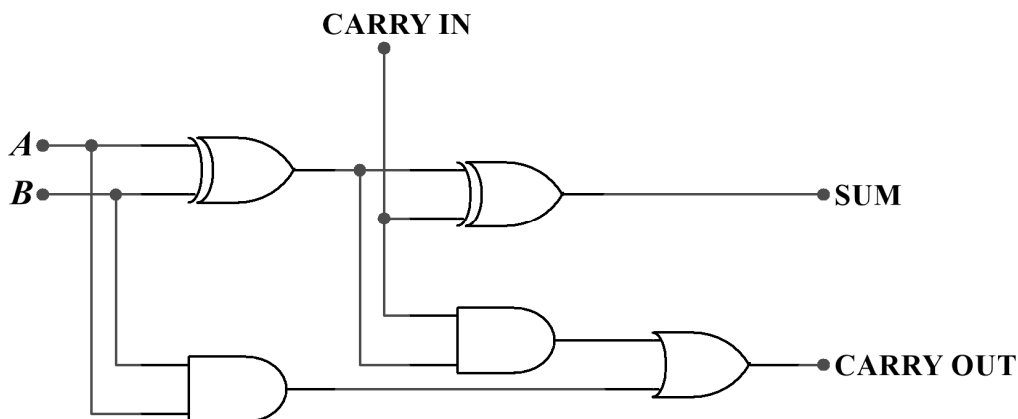

Figure 2.3. Full Adder
When a carry and the two quantities to be added are considered as inputs, the input combinations increase to eight as shown in table 2.6. An adder capable of producing the required outputs for the eight input combinations is called a *full adder*. The full adder is shown in the block diagram of figure 2.3.
8. A *full-adder* (figure 2.3) is a binary adder which combines three binary digits and provides an output and a carry. One of the inputs may be a carry from a previous arithmetic operation. A *full-adder* has eight possible input combinations (table 2.6).